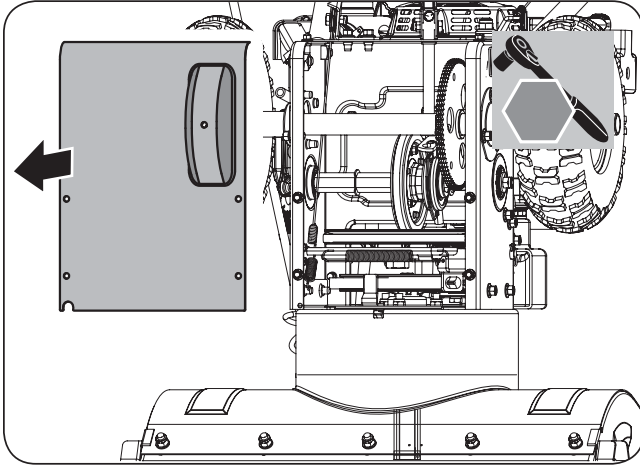

Figure 20c
5. Remove the frame cover from the underside of the snow blower by removing the screws which secure the cover. (See **Figure 20c**)
- Remove bottom cover to avoid bending it when tipping unit apart. (See **Figure 20c**)
- Remove the frame cover(s) from the underside of the snow blower by removing the screws which secure the cover(s). (See **Figure 20c**)